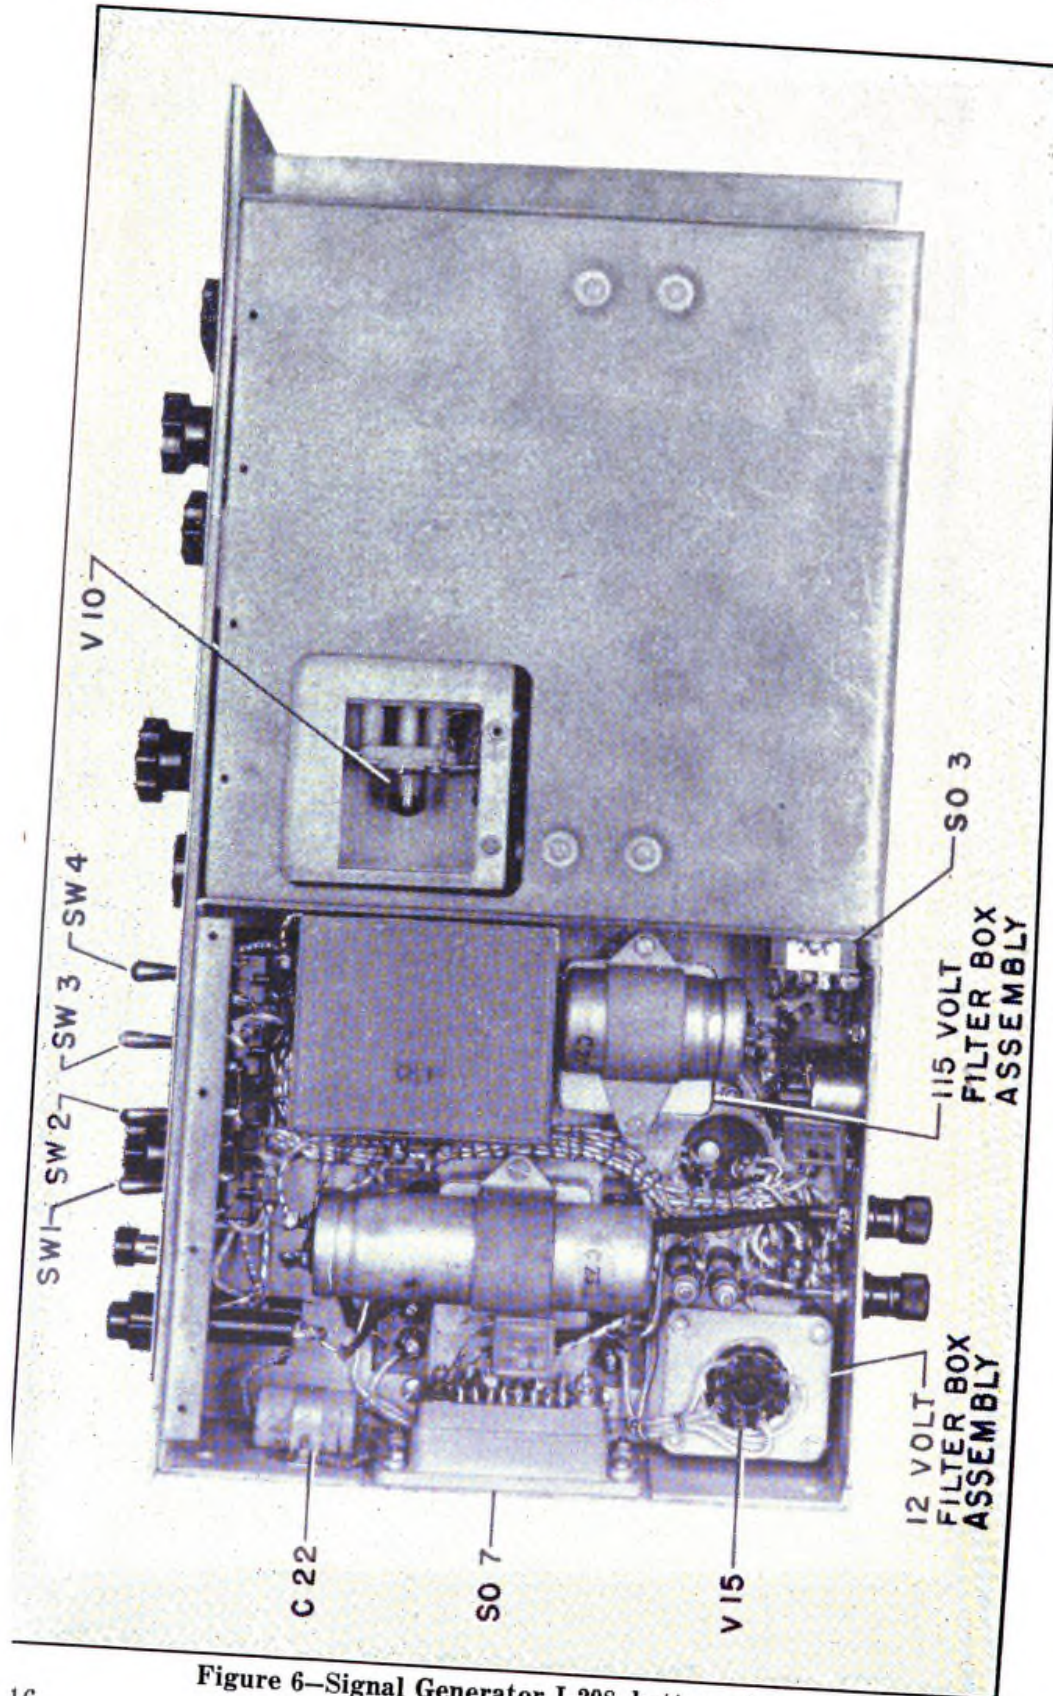

Figure 6—Signal Generator I-208, bottom view
d. The r-f VTVM tube V_{10} can be reached through a removable panel at the bottom of the signal generator (figure 6).